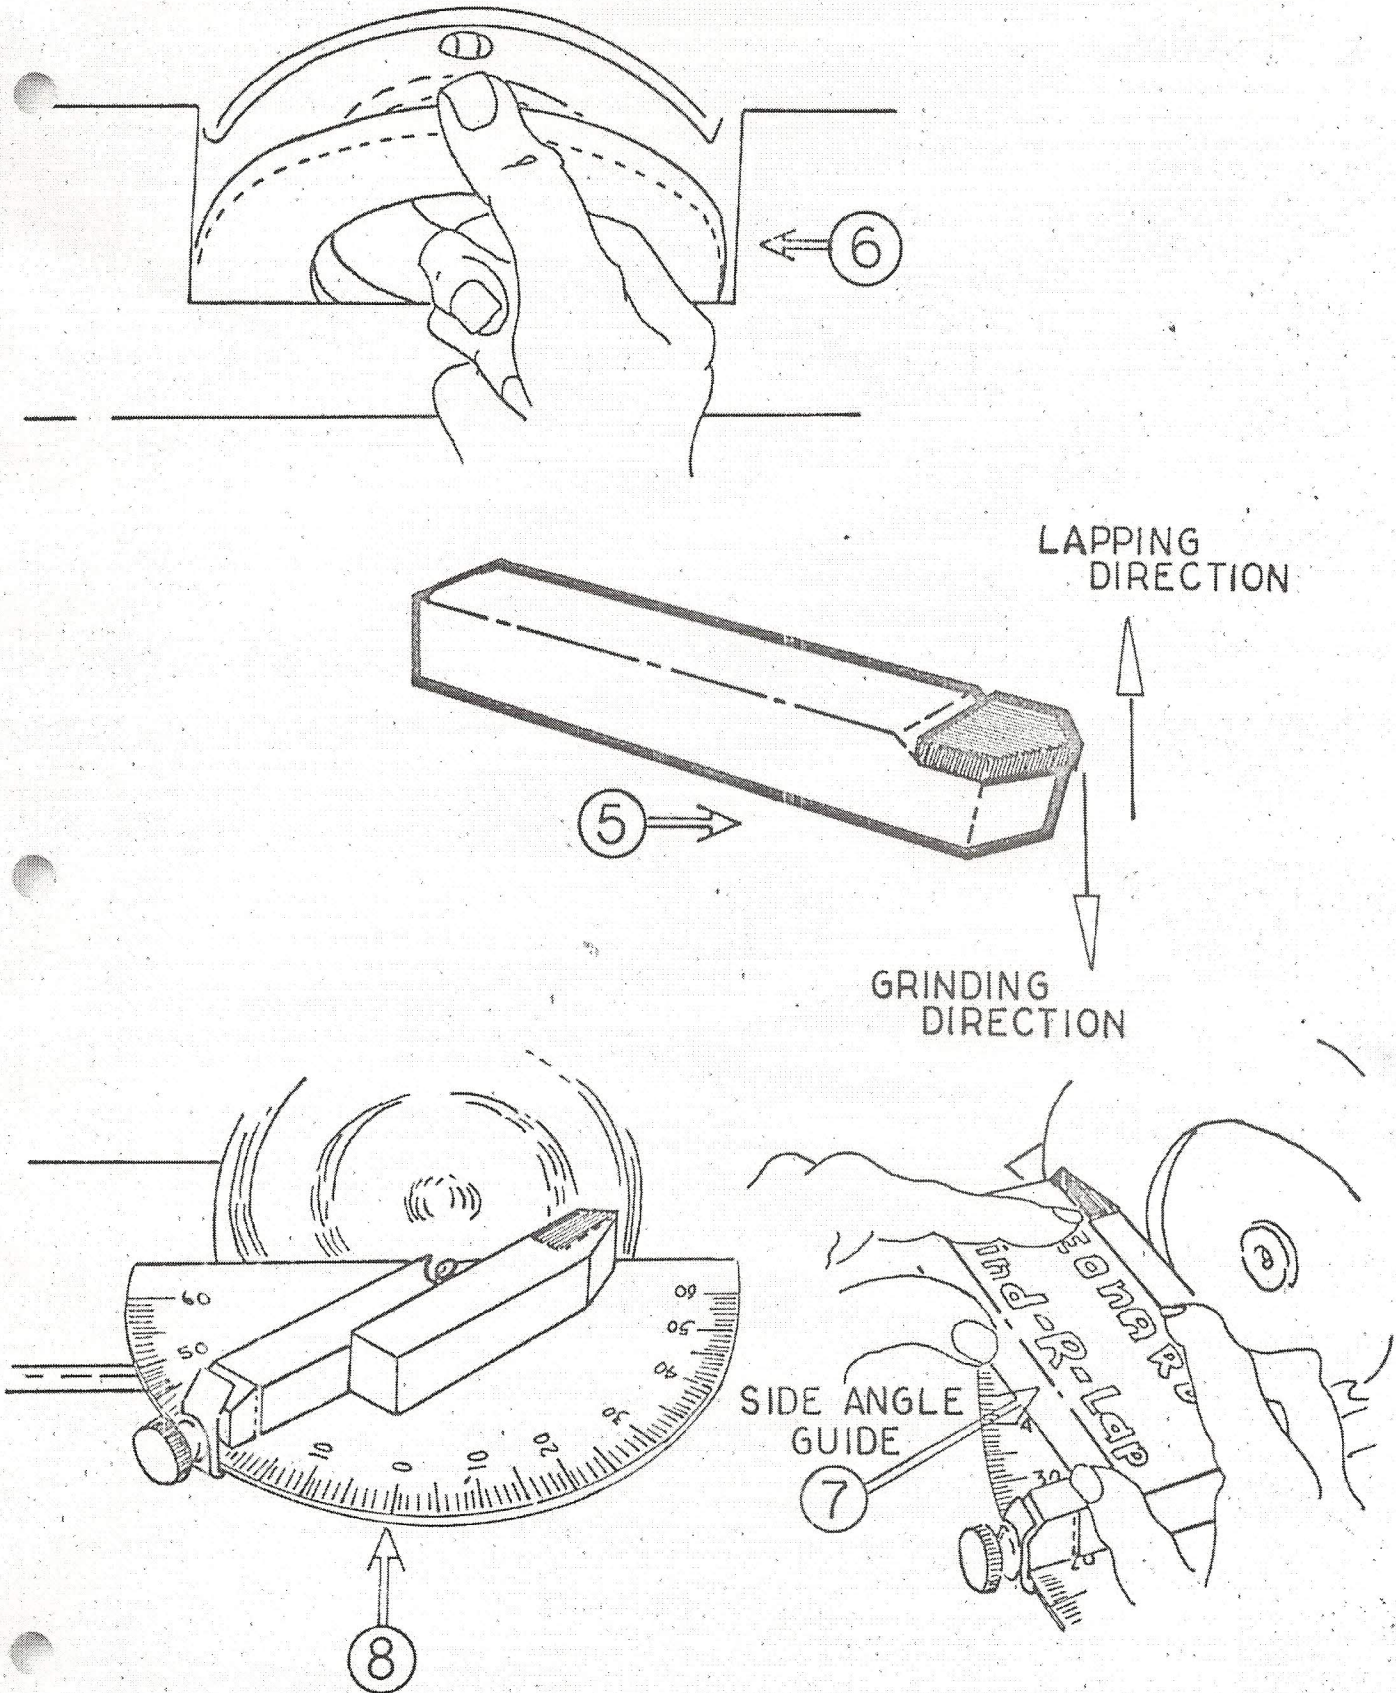

FIGURE 2
- a. Lap rotation must be opposite to conventional grinding. Lapping particles should always enter from lower edge of tool and leave the surface at the cutting edge. Action is speeded up by setting the table approximately one degree ( $1^{\circ}$ ) less than the clearance relief or rake of angle being finished. (Fig. 2)
- a. Really two machines in one. The magnetic head permits wheel changing in seconds. Wheels are removed and replaced with fingers only. Wheel changing takes approximately eight (8) seconds. (Fig. 2)
Using the Leonard Side Angle Guide (Fig. 2) position tool edge to oscillating wheel. Side angle bar simplifies angle grinding on the smaller tools.
Use Leonard Protractor to ensure accuracy and ease of operation. (Fig. 2)